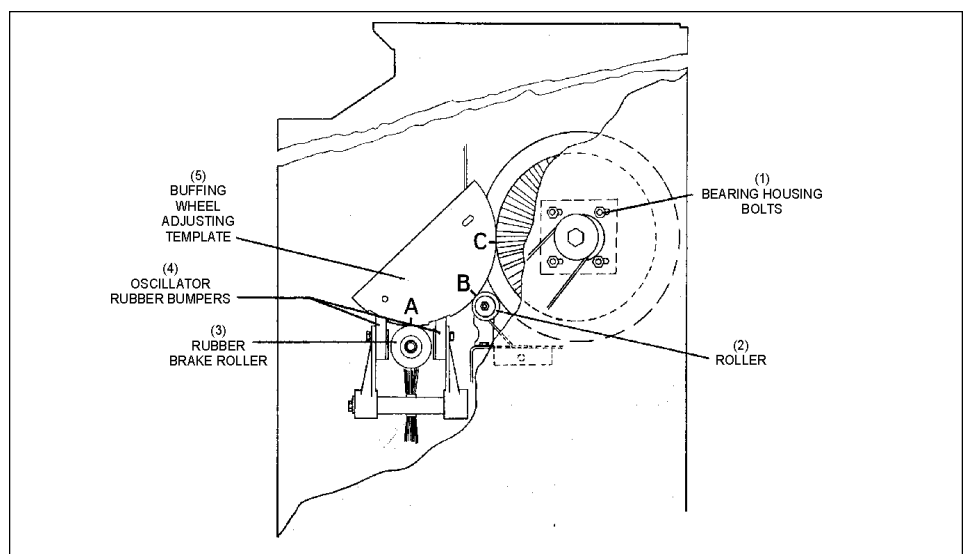

Figure 12. Template Position
(1) LEADING EDGE
(2) TRAILING EDGE
- Position the template inside the ball compartment with point "A" on the center of the ball roller and point "B" against the steel guide roller beneath the buffing wheel. Refer to *Figure 12*.